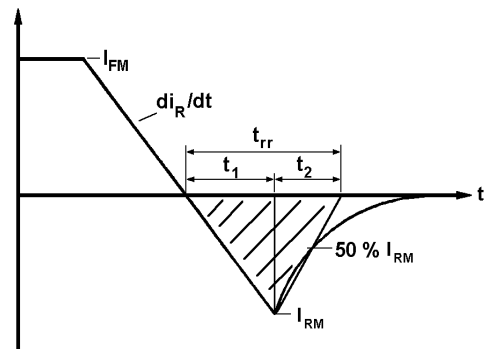

Fig. 1
- (i) Q_{ra} is based on 50% I_{RM} chord as shown in Fig. 1